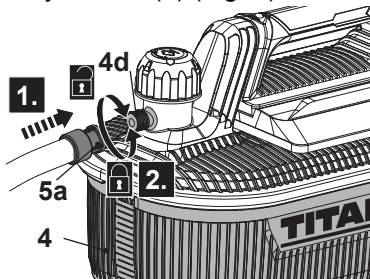

Fig. 1
1. Screw one hose adaptor (5a) clockwise onto the thread of the hose connector (4d) of the water tank (4). Ensure the connection is properly secured (Fig. 1).